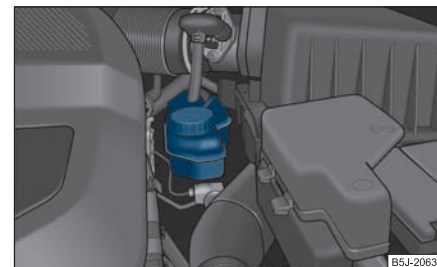

Fig. 185 Engine compartment: Brake fluid reservoir
- Inspect the brake fluid level in the reservoir ⇒ fig. 185. The level must be between the “MIN” and “MAX” markings.